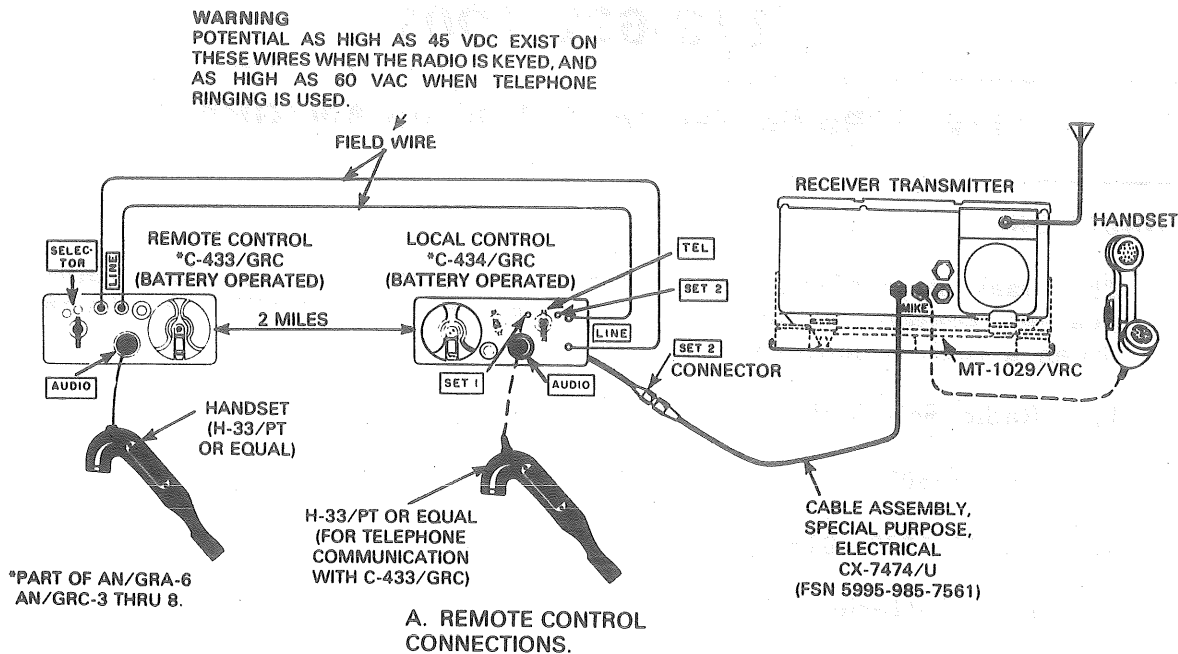

Figure 1. Remote Control Connections of AN/GRA-6.
This task has been performed correctly when, in 10 minutes, the AN/GRA-6 components have been set up and connected without damage to the radio set according to the requirements in figure 1 of this task; all cable connections are made; and the AN/GRA-6 is ready to be operated according to performance measures 1 through 3.
1. Install Radio Set Control Group AN/GRA-6. (Refer to fig 1, and TM 11-5820-401-12, para 6-10a, and TM 11-5038, chap 2, para 14 thru 16.)